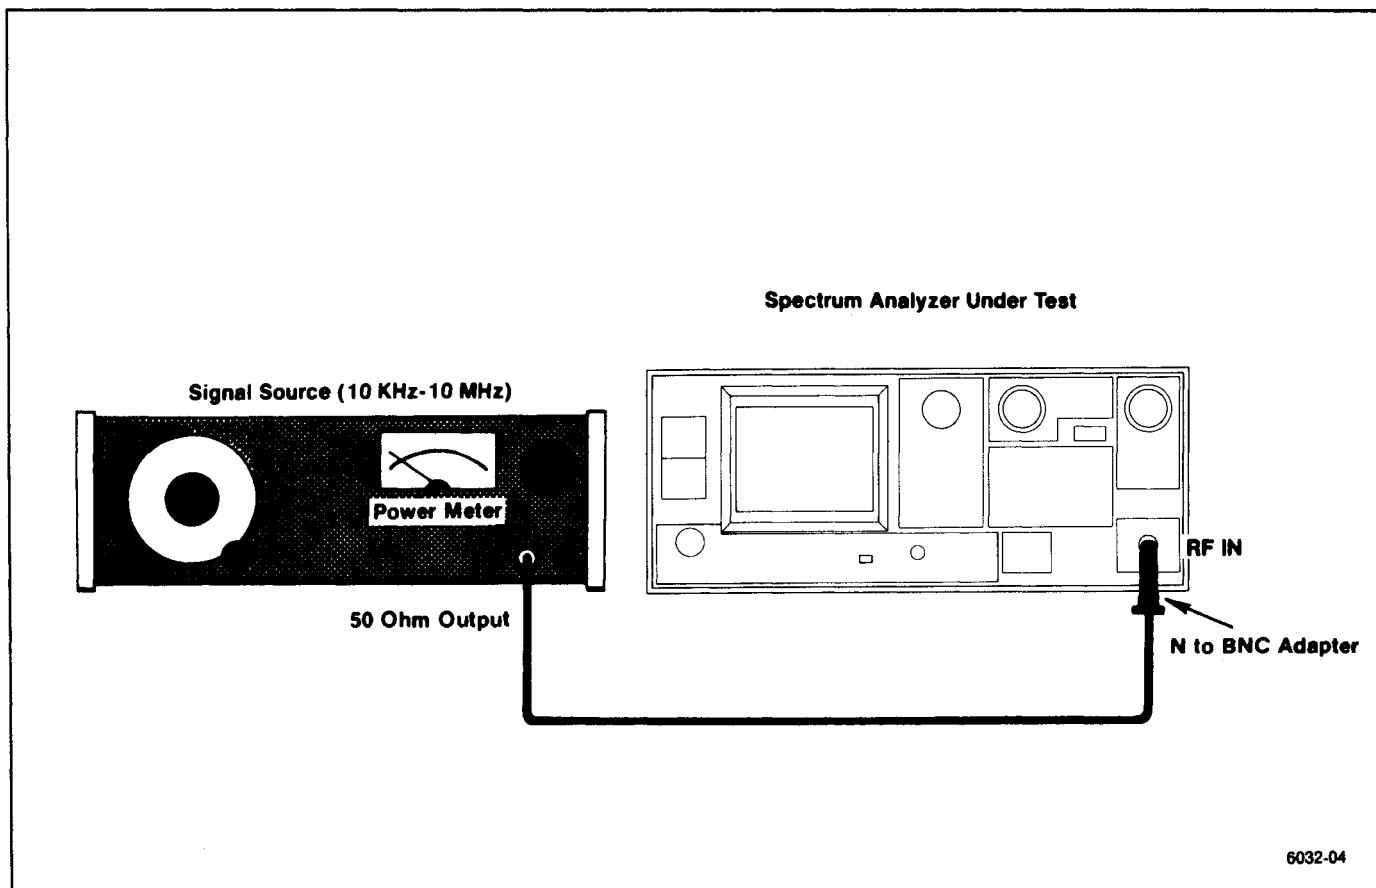

Figure 4-11. Test equipment setup for measuring 10 kHz to 10 MHz frequency response.
(1) Reconnect the test equipment as shown in Figure 4-11. Reset FREQUENCY to 10 MHz.
(2) Set the generator output for  $-20$  dBm at 10 MHz, and set the Spectrum Analyzer controls as follows: